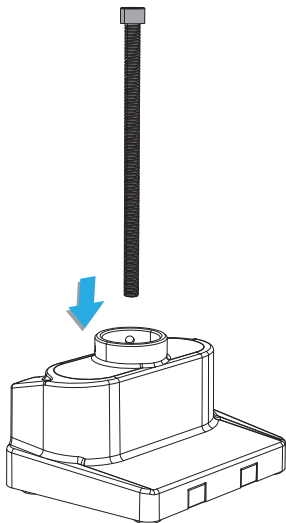

Figure 4
2. Insert the **Grommet Clamping Screw** through the **Desk Clamp**. (Figure 4)